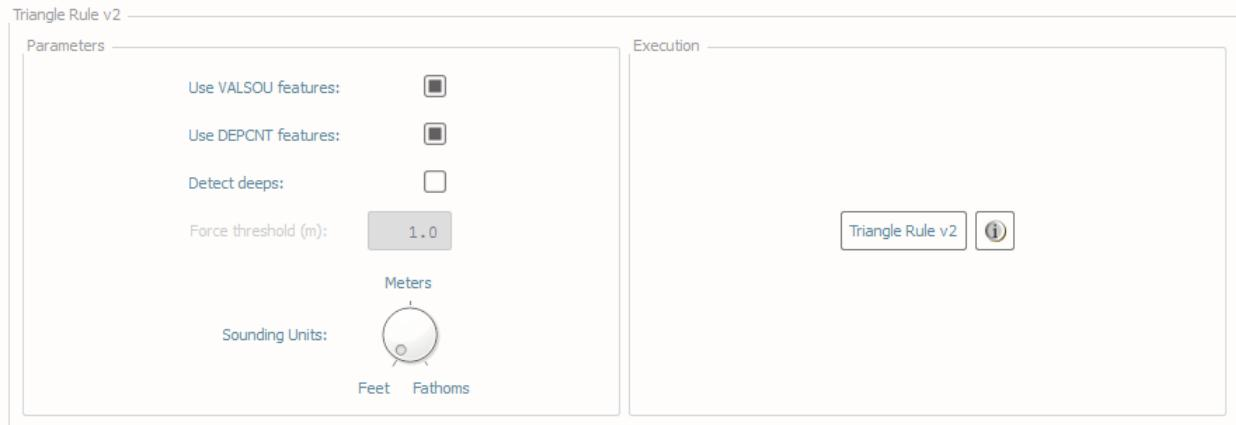

Fig. 2.64: Triangle rule's interface.
- In **Parameters** (Fig. 2.64, left side):
- In **Execution** (Fig. 2.64, right side), click **Triangle Rule v2**.